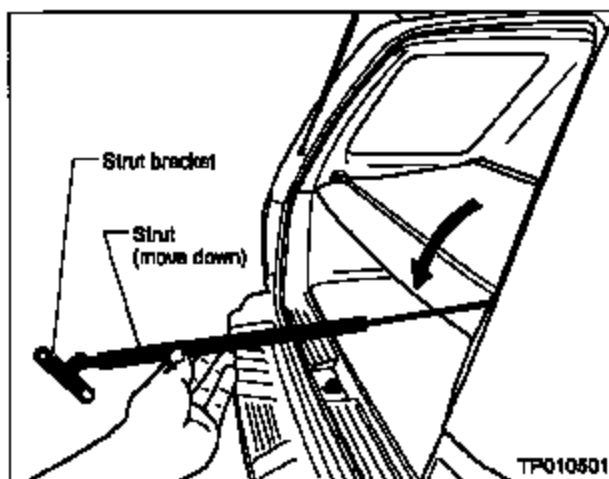

Figure 4
3. Move the strut/bracket assembly downward to a horizontal (level) position (see Figure 4).